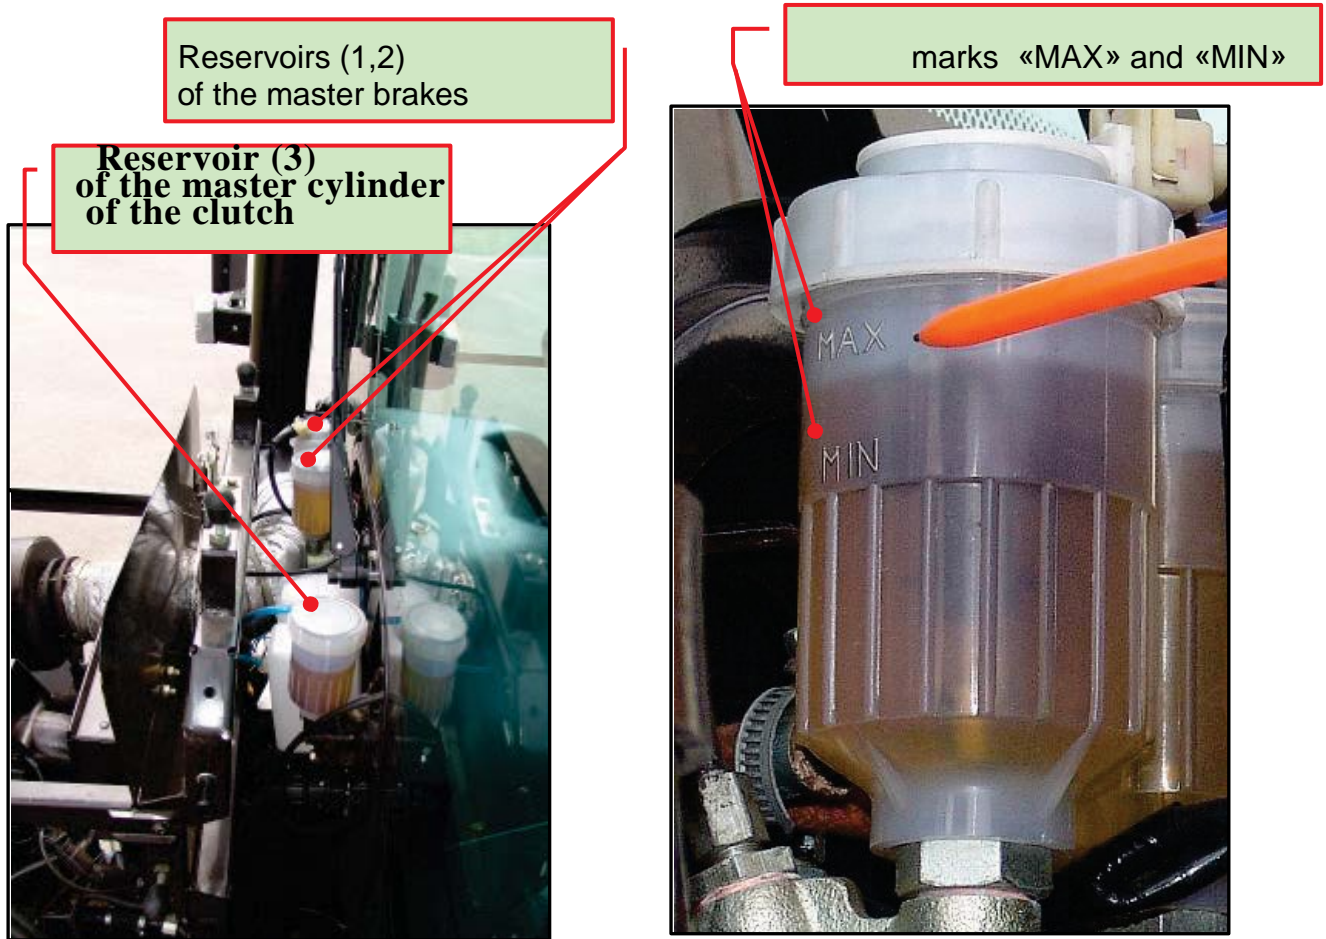

Figure 8.7
**Procedure 6. Checking the Brake Liquid Level in the Master Cylinder Tanks of the Hydraulic Actuator of the Clutch and Service Brakes .(fig. 8.7)**